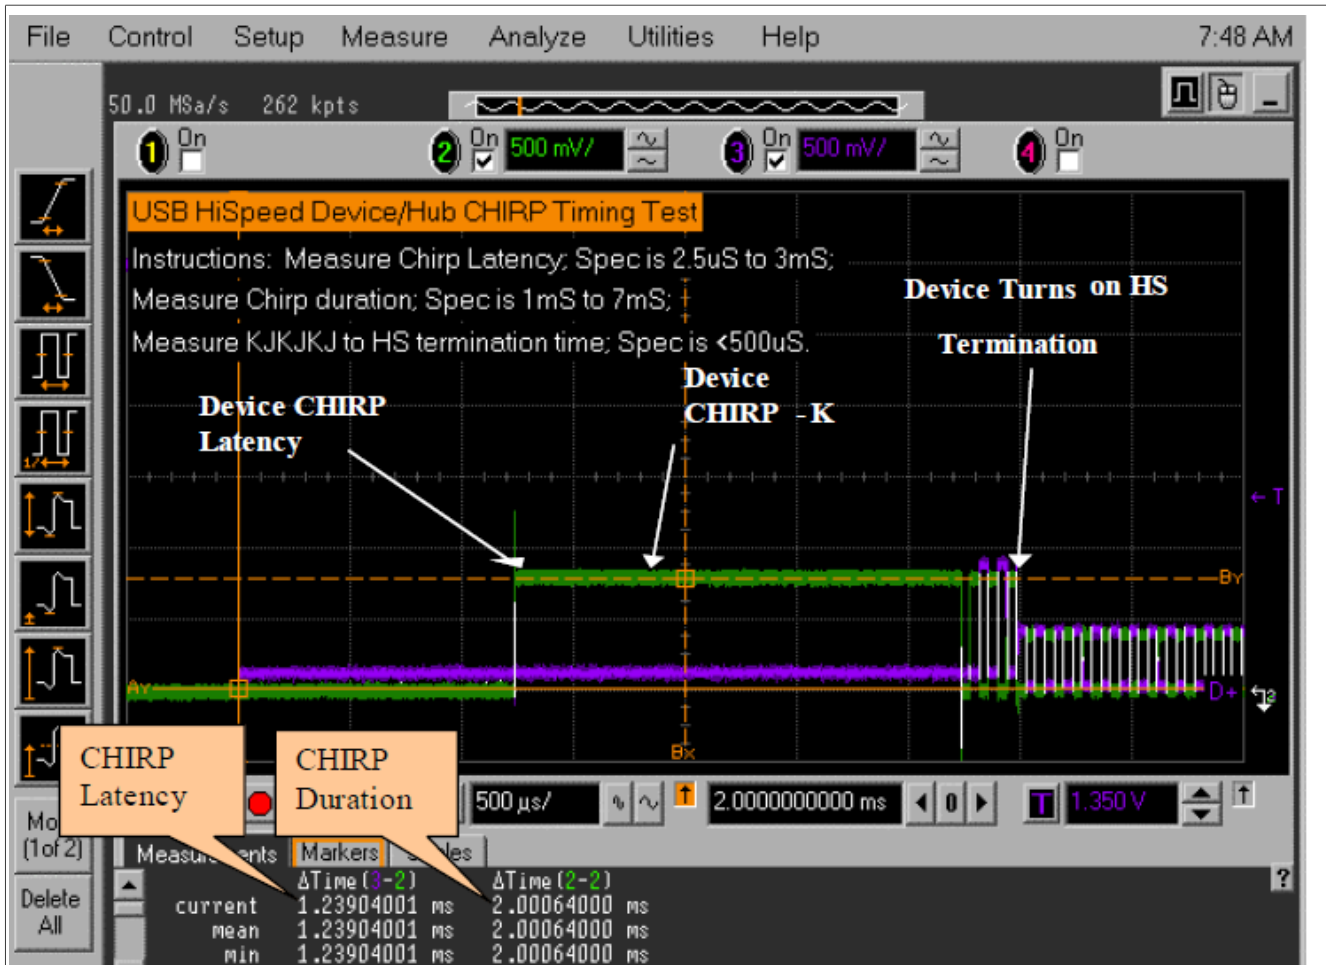

Figure 43. Device CHIRP J/K Waveform
4. Click **Enumerate Bus** on the menu of the HS Electrical Test Tool. Oscilloscope will capture and measure the Chirp handshake as shown in Figure 43 below.